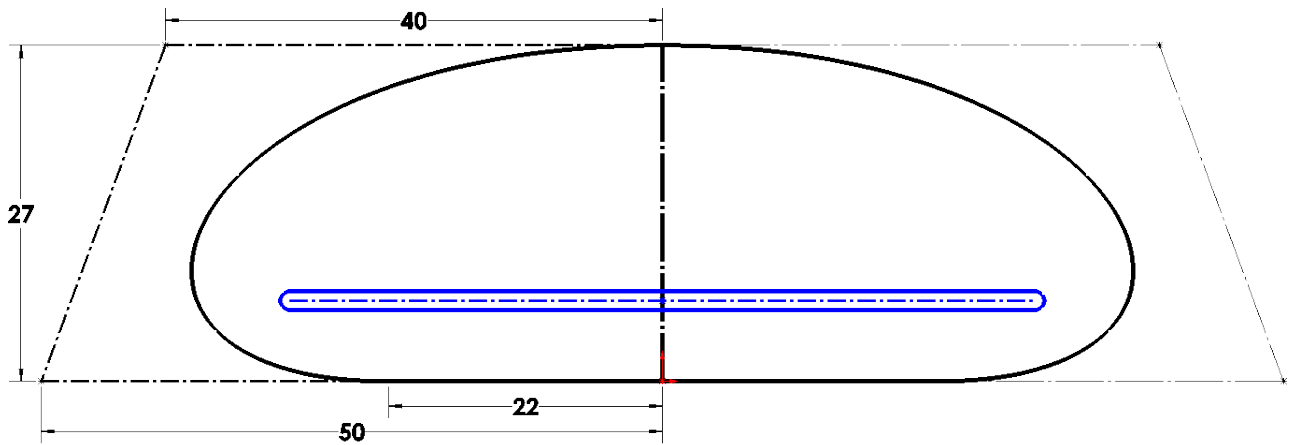

Fig. 9
Step 1. Click **Centerpoint Straight Slot**  (S) in the **Slot flyout**  on the Sketch toolbar.
Step 2. Starting from centerline sketch a **horizontal straight slot**, Fig. 9.